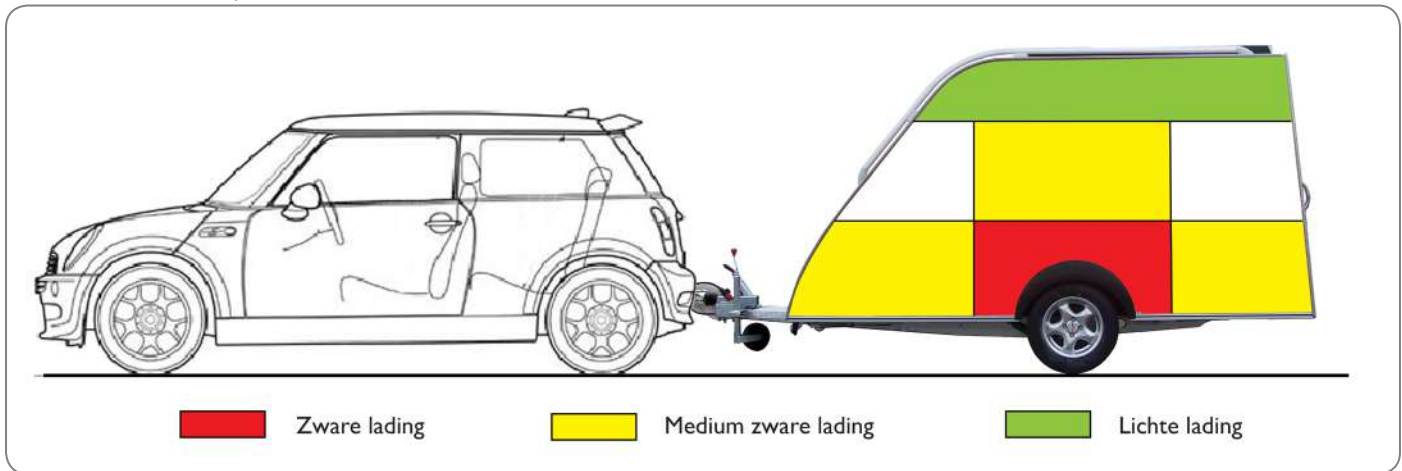

Figure 1.01
- Place heavy objects above the Shelter axle if possible (fig. 1.01).